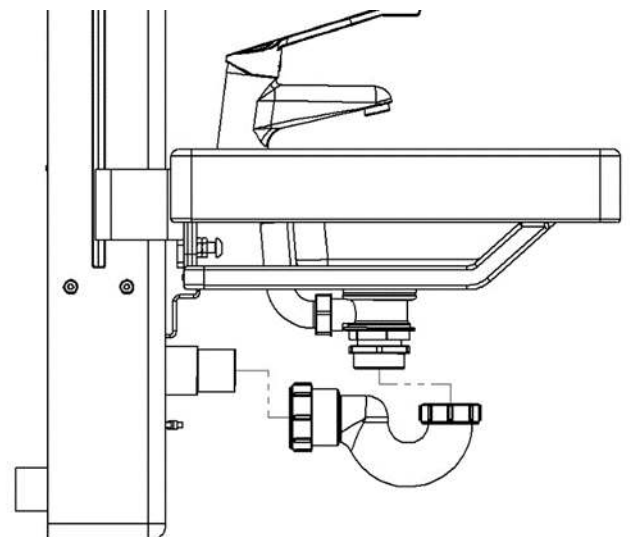

Figure 21 Fit p-trap
9. Connect P trap to flexible hose (Figure 21)
10. Connect P trap to basin waste (Figure 21)